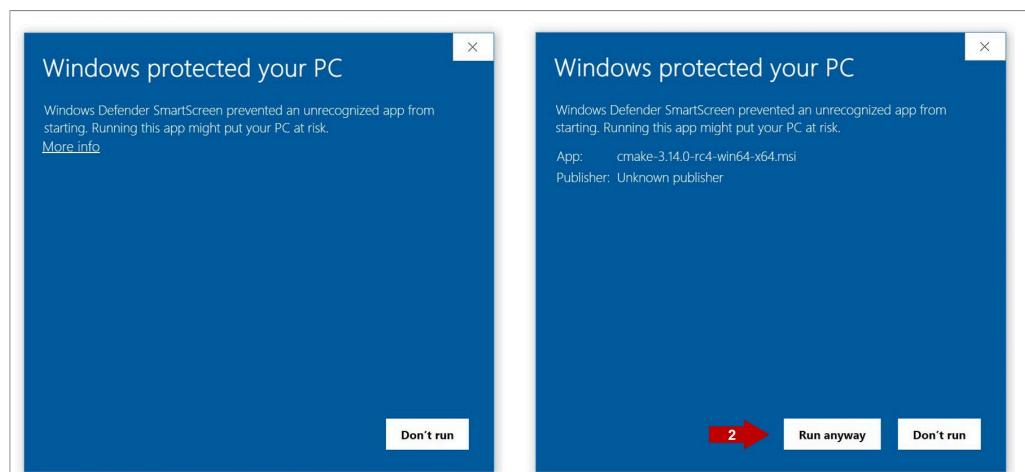

Figure 38. Run the CMake installer (II)
4. If this is your case: Click (1) on **More info** and then (2) click on **Run anyway** as shown in Figure 38: